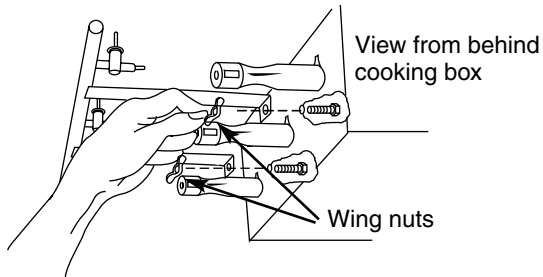

Figure 15
- e) Remove the manifold bracket and unscrew the two wing nuts that hold the manifold to the cooking box. Pull the manifold and valve assembly out of the burners and carefully set it down. Figure 15.